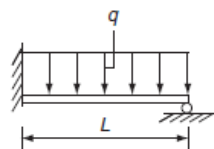

Figure 27 Question 42.
- 42.** A uniformly loaded propped cantilever beam and its free-body diagram are shown in Figure 27. The reactions are: